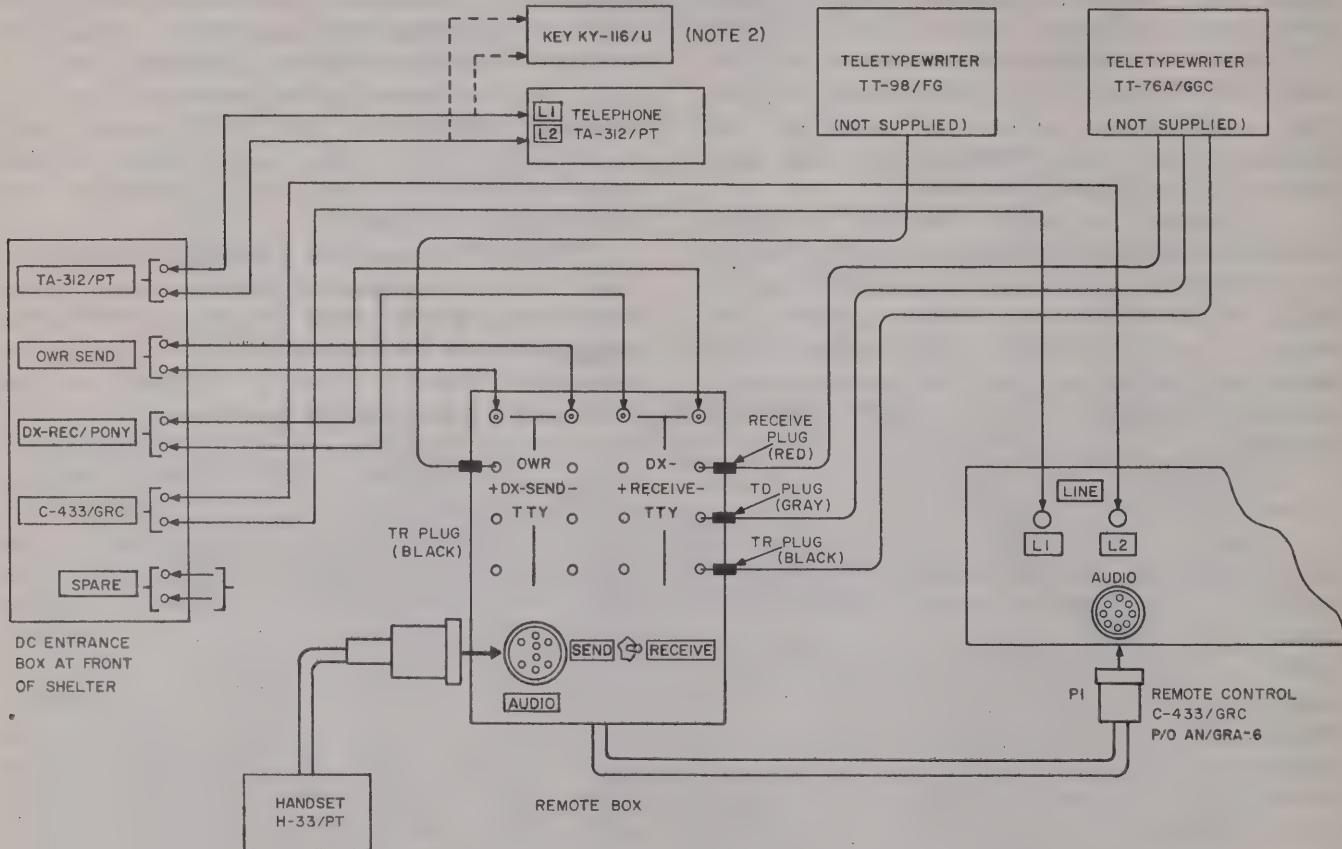
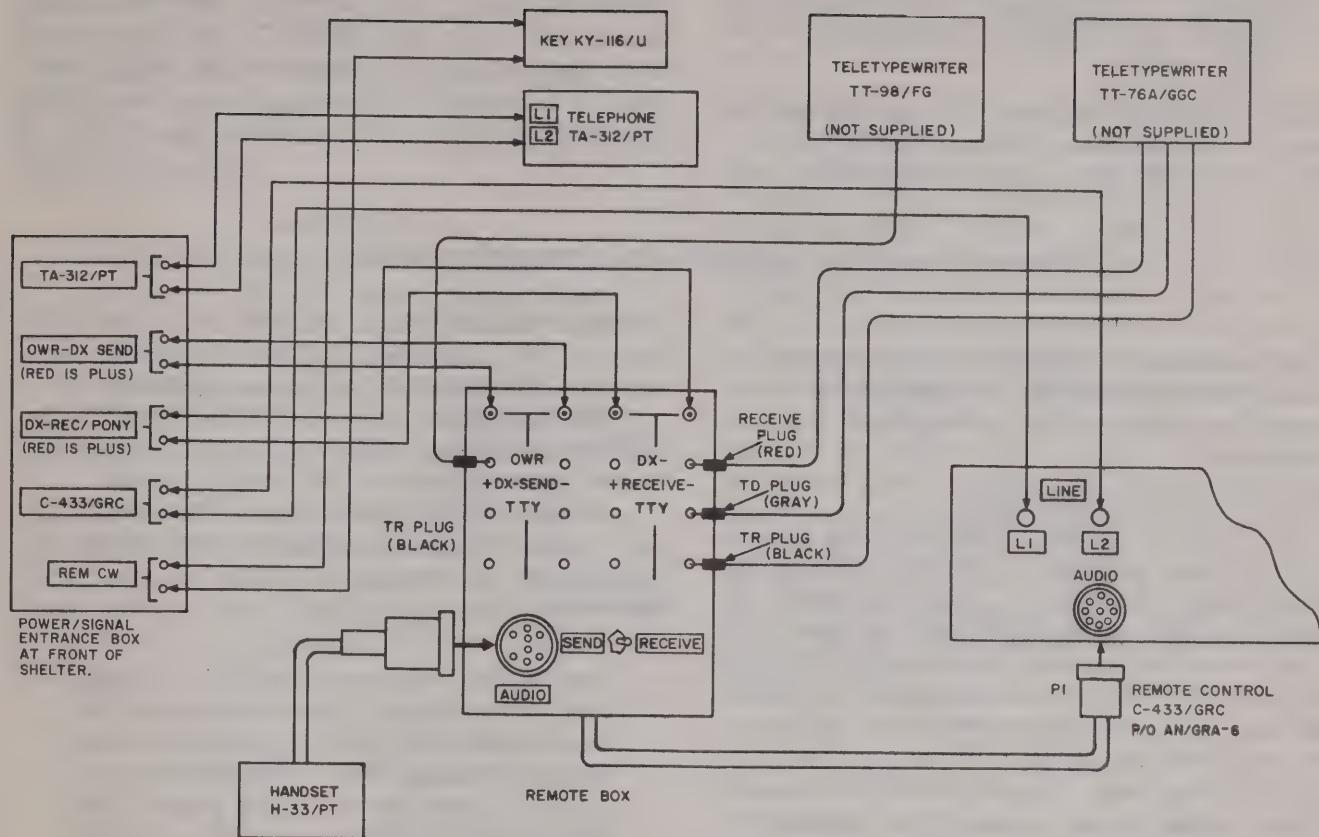

Figure 2-5. Radio Teletypewriter Set AN/GRC-142 or AN/GRC-122, typical remote operating setup.
Figure 2-6. Radio Teletypewriter Set AN/GRC-142A, -142B or AN/GRC-122A, -122B, typical remote operation setup.
This paragraph contains the installation procedures for the following remote units: Remote Control C-7279/GRC, Remote Control C-433/GRC, remote Telephone Set TA-312/PT, remote Handset H-33/PT, remote Key, Telegraph KY-116/U, remote Teletypewriter TT-98/FG, and remote teletypewriter, Reperforator-Transmitter TT-76A/GGC. These instructions cover all models unless otherwise noted. A typical installation is shown in figure 2-5 or 2-6. This figure shows a full-duplex setup (AN/GRC-122(*) only) at the remote site. The remote site can be up to a maximum distance of 1 mile from the shelter. The configuration shown in the figure will vary depending on communication requirements. A 110-volt ac power source is required at the remote site for operation of the teletypewriter machines. Ac power requirements will depend on the type and number of teletypewriter machines being used at the remote site. Details contained in *a* through *g* below explain some of the configurations that can be used.
a. Remote Box Installation. The remote Box requires one pair of landlines for owr operation (OWR DX-SEND TTY loop) and an additional pair of landlines for remote duplex or pony operation (AN/GRC-122(*) only) (DX-RECEIVE TTY loop). Figure 2-5 shows only two teletypewriters connected to the remote box. The remaining jacks on the remote box provide termination for additional teletypewriter equipment. All the OWR DX-SEND TTY jacks are in series with each other. All DX-RECEIVE TTY jacks are in series with each other. This arrangement allows a total of six teletypewriters to be connected into each loop. Connect the landlines as follows:
(1) Connect the landlines between the shelter and remote box as shown in figure 2-5 (AN/GRC-142 or AN/GRC-122) or figure 2-6 (AN/GRC-142A, -142B, or AN/GRC-122A, -122B). Landlines connected to the DX-RECEIVE TTY section of the remote box need not be made if the remote duplex or pony circuit capability (AN/GRC-122(*) only) is not required.
(2) Connect pendant plug P1 of the remote box to the C-433/GRC, AUDIO connector.
In the AN/GRC-142A, -142B or AN/GRC-122A, -122B configuration, the landlines originate at the power/signal entrance box C-433/GRC binding posts (fig. 2-6).
f. Remote Teletypewriter TT-98/FG Installation. The TT-98/FG is connected into the system at the remote box. Figures 2-5 and 2-6 show the TT-98/FG plugged into an OWR DX-SEND TTY jack of the remote box. However, it can be connected into the duplex receive pony loop by inserting the TT-98/FG plugs into the remote box DX-RECEIVE TTY jacks. Before installation, the TT-98/FG selector magnet wiring must be checked to see that it conforms with the loop current (either 60 or 20 milliamperes (ma)) that has been selected at the shelter. Refer to paragraph 2-15 for system loop current adjustment details, and to TM 11-5815-200-12 for TT-98/FG wiring details.